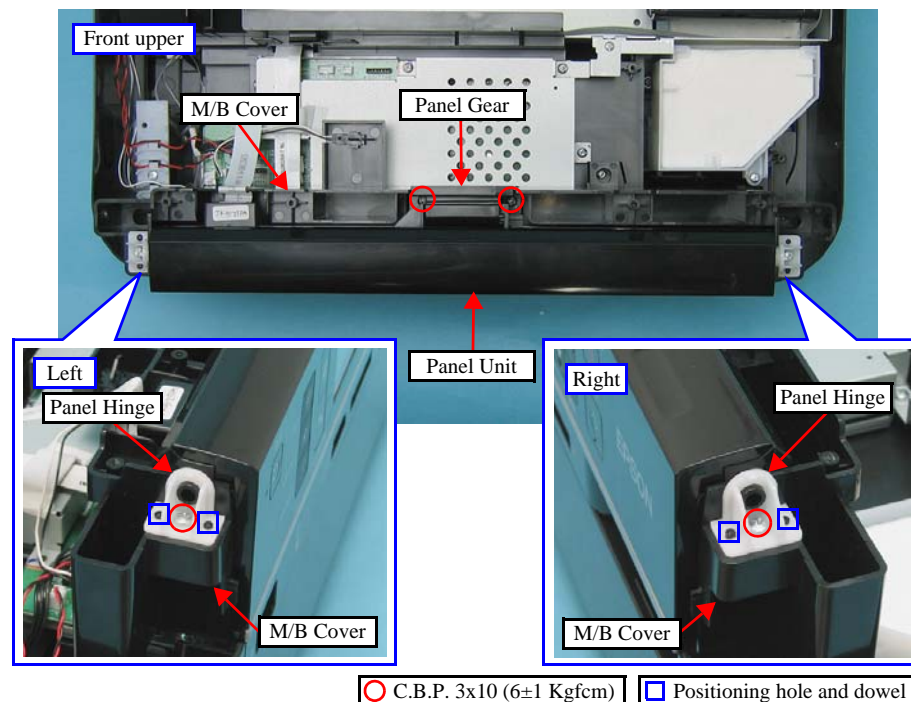

Figure 4-23. Removing the Panel Unit (2)
- When installing the Panel Unit, align the positioning holes (x2 each) of the Panel Hinges with the dowels (x2 each) of the M/B Covers. (See Figure 4-23.)